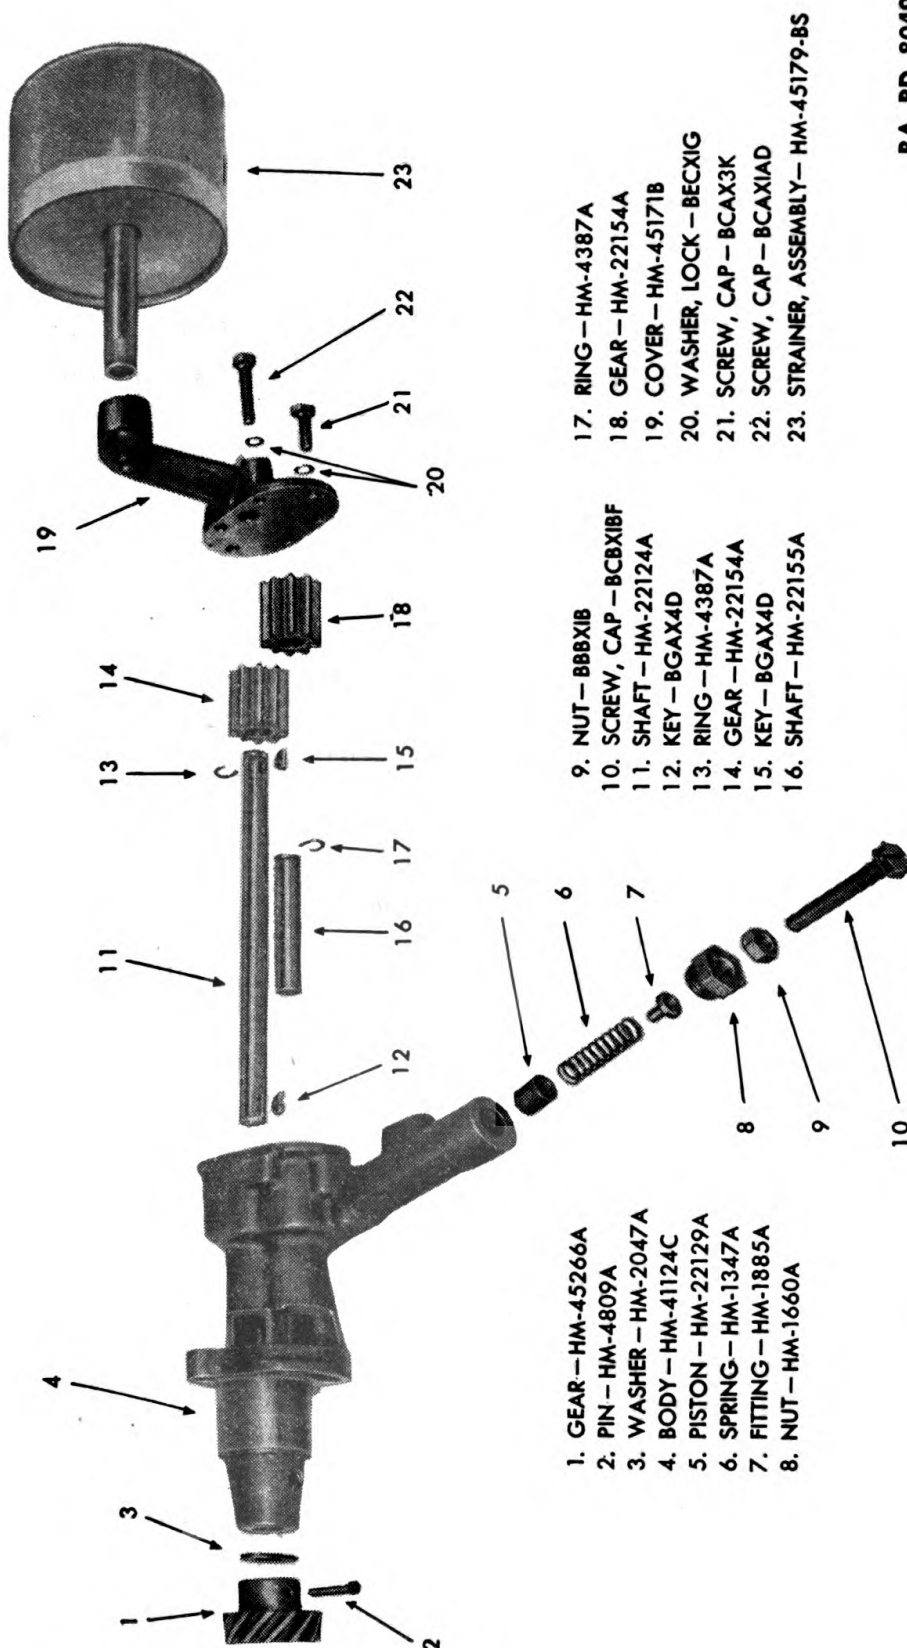

FIGURE 201.—Oil pump, exploded view.
d. Oil pump disassembly (fig. 201).—Tools: